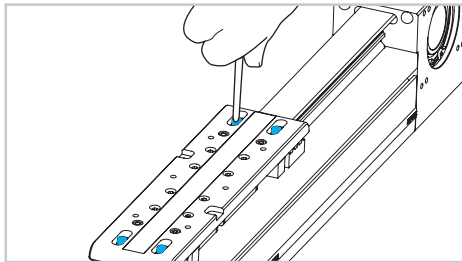
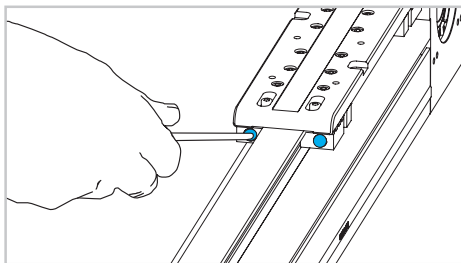
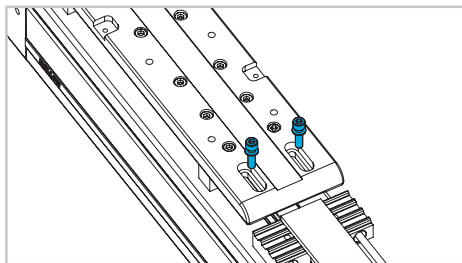
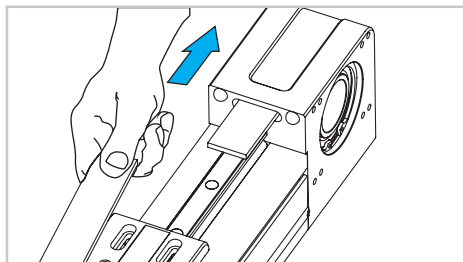

Fig. 4
Fig. 3
Fig. 5
Fig. 6
2) Remove the belt tensioner untightening both the vertical and horizontal screws on the carriage (Fig. 3 - Fig. 4 - Fig. 5)
- 3) Remove the driving belt from both ends of the carriage (Fig. 5) and pull off (Fig. 6). To re-assemble the belt, carry out the same operations in the opposite way repositioning the belt tensioner at the initial distance X.